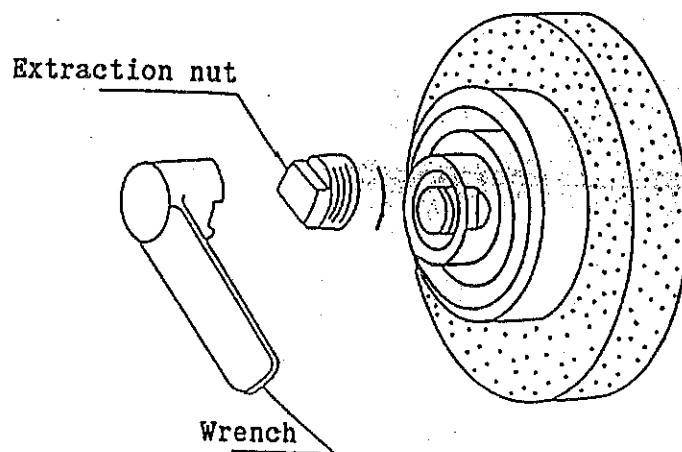

Fig. 11-4 Dismounting from the wheel spindle
- 2) Set the extraction nut to the screw thread of the wheel flange, and screw it clockwise until coming in contact with the tip of the spindle thread. ▶ See Fig. 11-4.